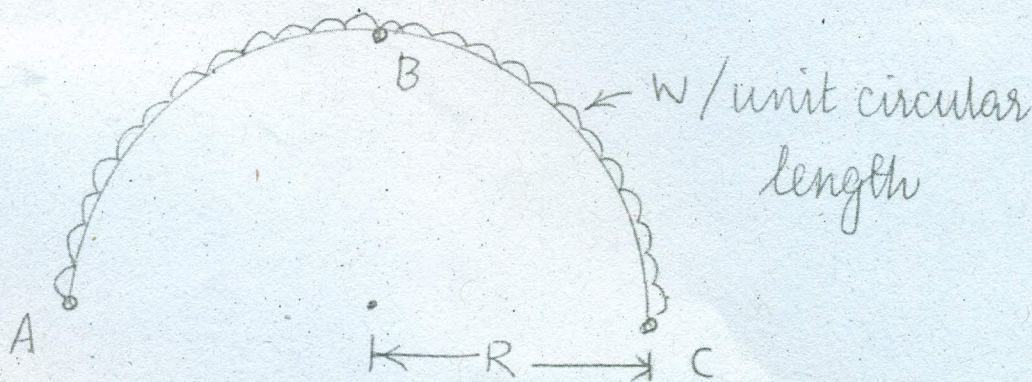

Fig. Q. 15 (a)
15. (a) Diagram fig. Q.15 (a) shows a curved beam, semi-circular in plan and supported on three equally spaced supports. The beam carries a uniformly distributed load of w /unit of the circular length. Analyse the beam and sketch the bending moment and twisting moment diagrams.